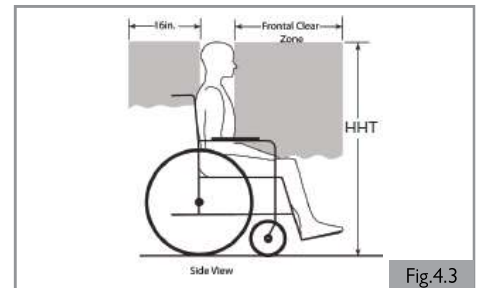

Fig.4.3
4. The estimated seated height (HHT) from the ground or floor to the top of the wheelchair-seated occupant's head ranges from approximately 47-in (119 cm) for a small adult female to about 61-in (155 cm) for a tall adult male (Fig 4.3).